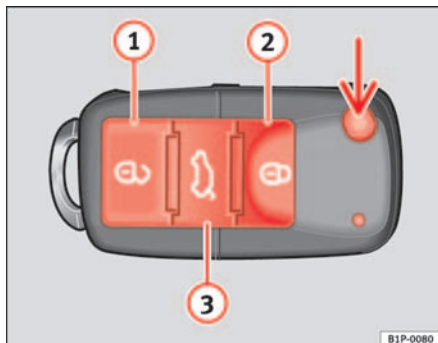
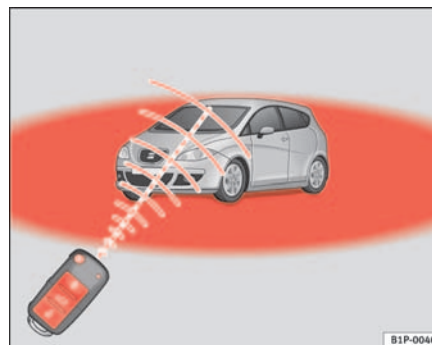

Fig. 64 Assignment of buttons on the remote control key
Fig. 65 Range of the remote control
Using the button  $\Rightarrow$  fig. 64 (arrow) on the control, the key shaft is released.
Unlocking the vehicle  $\Rightarrow$  fig. 64 ①.
Locking the vehicle  $\Rightarrow$  fig. 64 ②.
Unlocking the tailgate. Press the button  $\Rightarrow$  fig. 64 ③ until all indicators on the vehicle briefly flash. When the unlocking button  $\Rightarrow$  fig. 64 ③ is pressed, 2 minutes remain for opening the door. Once this time has passed, it will lock once more.
Also, the battery indicator on the key  $\Rightarrow$  fig. 64, will flash.
When the button  $\Rightarrow$  fig. 64 ① is used the driver's door is unlocked, all others remain locked.
Press the button  $\Rightarrow$  fig. 64 ① twice to unlock all doors. ▶
- The remote control functions only when you are in range ⇒ page 98, fig. 65 (red area).
- If the vehicle is unlocked using the  ① button, the vehicle will be locked again automatically if any of the doors or the tailgate are not opened within 30 seconds of unlocking the vehicle. This function prevents the vehicle from remaining unlocked if the unlocking button is pressed by mistake.
- Use both keys that have been delivered with the vehicle; the key with the remote and the normal key ⇒ page 98, fig. 64 ⇒ page 98, fig. 65.
- Lock the vehicle from the driver side door lock using the key with the remote control ⇒ page 98, fig. 64 ⇒ page 98, fig. 65.